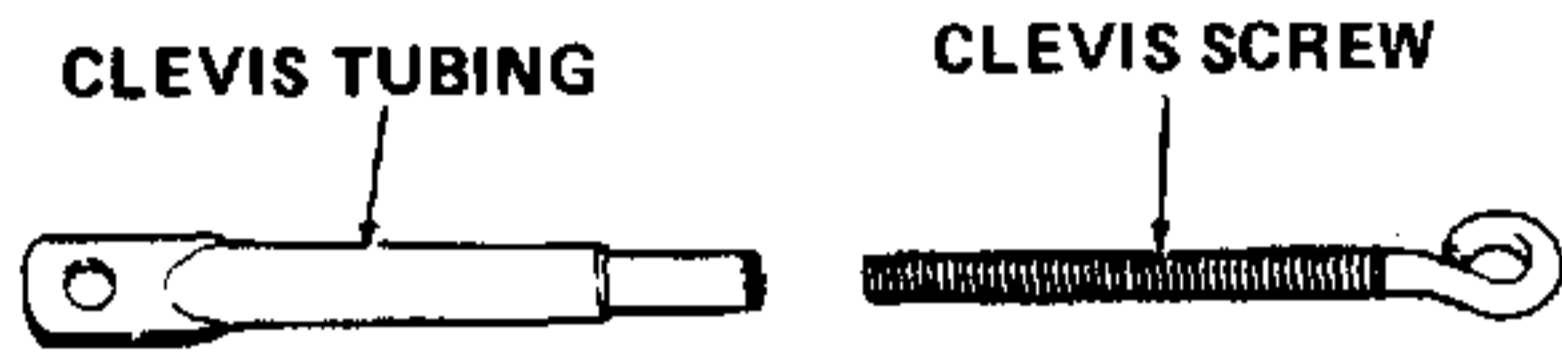

Figure 7-61. Threading Clevis Screw Into Clevis Tubing.
- a. Lightly oil threads on clevis screw and thread clevis screw into clevis tubing. Refer to Figure 7-61.